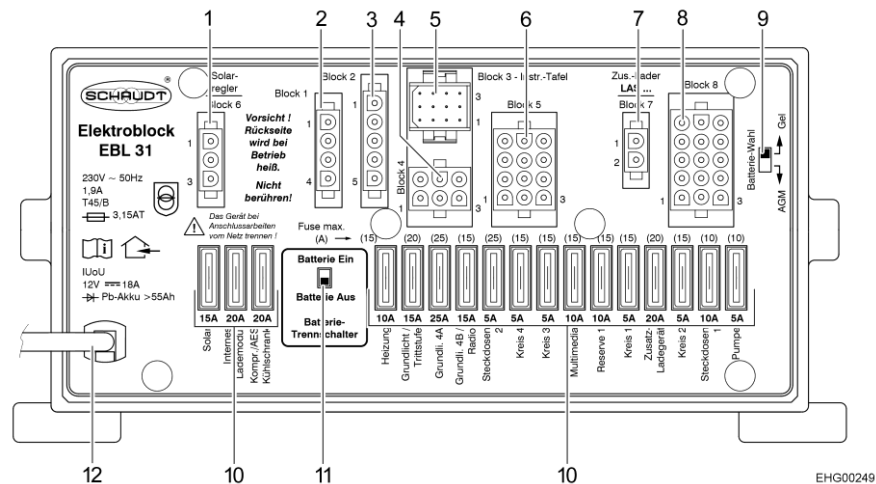

Fig. 84 Transformer/rectifier (EBL 31)
- ▷ Appliances such as the transformer/rectifier itself, the panel, the heater, the solar charge regulator (if present) and other devices consume a small amount of standby current and thus discharge the living area battery over time. Therefore, you switch the battery cut-off switch (Fig. 84,11) on the transformer/rectifier to "Batterie Aus" (battery Off) when the vehicle is not used for a long period of time. The solar charge regulator remains in operation. To deactivate the solar charge regulator, the corresponding fuse (Fig. 84,10 "Solar") must be removed.